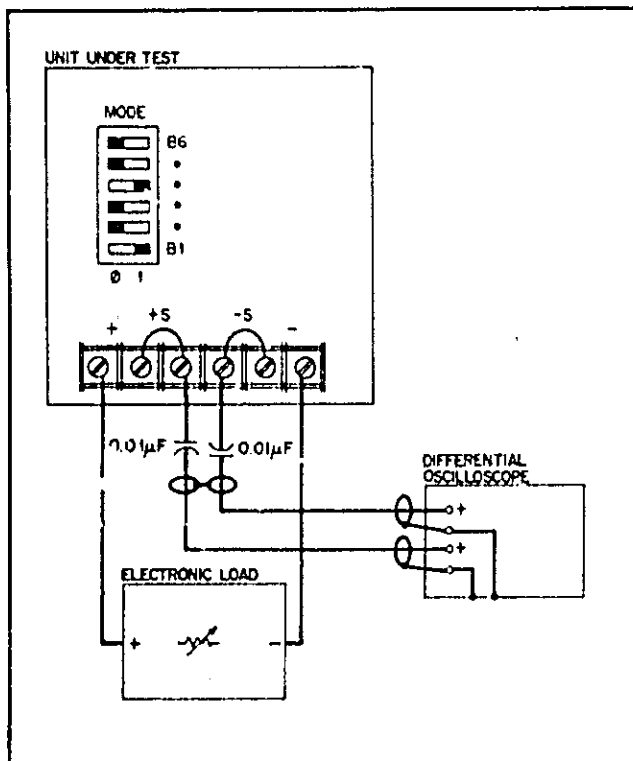

Figure 5-7. Peak-To-Peak Measurement Test Setup, CV PARD Test
5-38 Peak-To-Peak Measurement Procedure. Figure 5-7 shows the interconnections of equipment to measure PARD in Vpp. The equipment grounding and power connection instructions of Paragraph 5-36 apply to this setup also. Connect the oscilloscope to the + OUT and - OUT terminals through 0.01 μ F blocking capacitors to protect the oscilloscope's input from the unit's output voltage. To reduce common-mode noise pickup, set up the oscilloscope for a differential, two-channel voltage measurement. To reduce normal-mode noise pickup, use twisted, 1 metre or shorter, 50 Ω coaxial cables with shields connected to the oscilloscope case and to each other at the other ends. Proceed as follows:
- Connect the test equipment as shown in Figure 5-7. Operate the load in constant resistance mode (Amps/Volt) and set resistance to maximum.